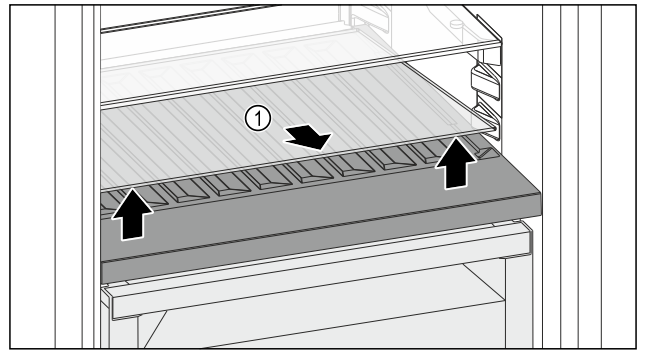

Fig. 183
- ▶ Lift the glass shelf Fig. 183 (1) at the front and remove.
- ▶ Store the glass shelf Fig. 183 (1) in a safe place outside the appliance.
- ▶ Insert the glass shelf (2) under the variable bottle rack.